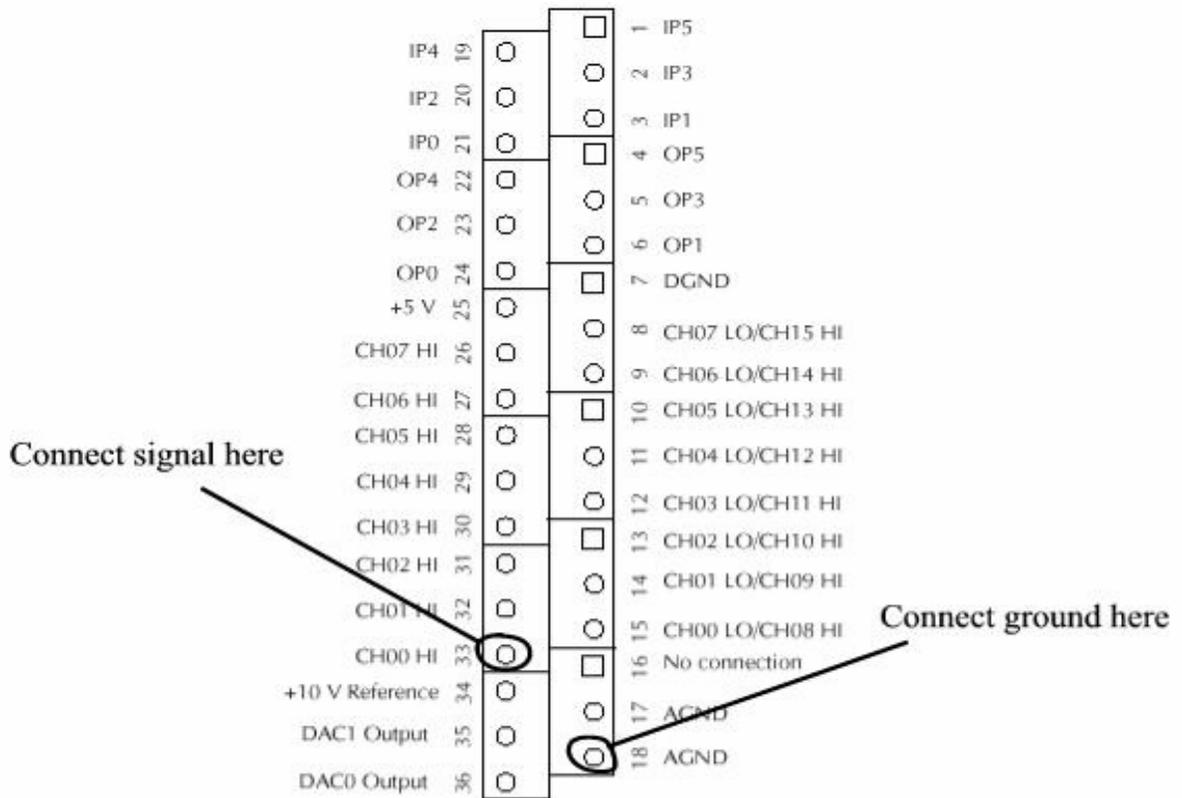

Figure 8. Analog screw terminal assignments
1. Use the alligator clips to connect the +6V output of the power supply to input 33 (channel 0) and the -6V output of the power supply to input 18 (analog ground) on the green terminal strip of the Keithley STP-36 analog connection module. This is the green printed circuit board that contains 36 mechanical compression terminals and is connected by a cable to the Keithley DAQ card inside the computer. You should have already specified channel 0 and device number 1 in steps 4 and 5 above. See Figure 8 for additional help.